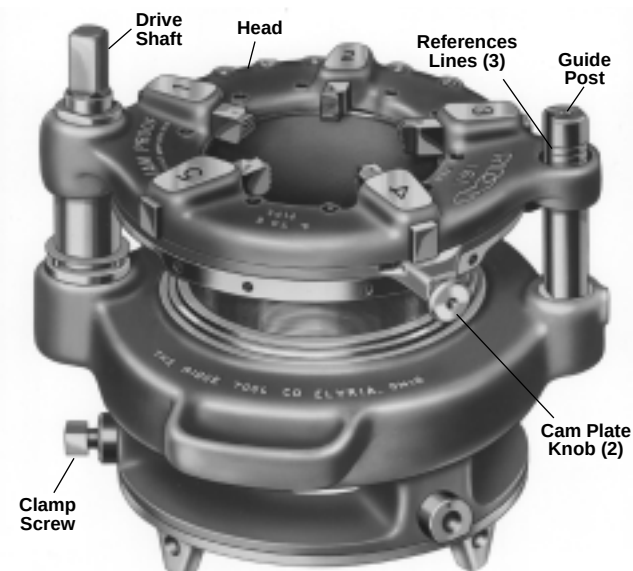

Figure 25 – No. 161 Geared Threader with Drive Shaft UP
2. Pull cam plate knobs (*Figure 25*) and rotate cam plate to desired pipe size markings on top of die head. Release knobs when locating pins drop into holes in selector plate.
Grasp workholder and turn square end of drive shaft or turn gear case by hand to respective reference lines on guide post. (*Figure 25*)
2. Pull cam plate knobs (*Figure 25*) and rotate cam plate to CD mark on top of die head.